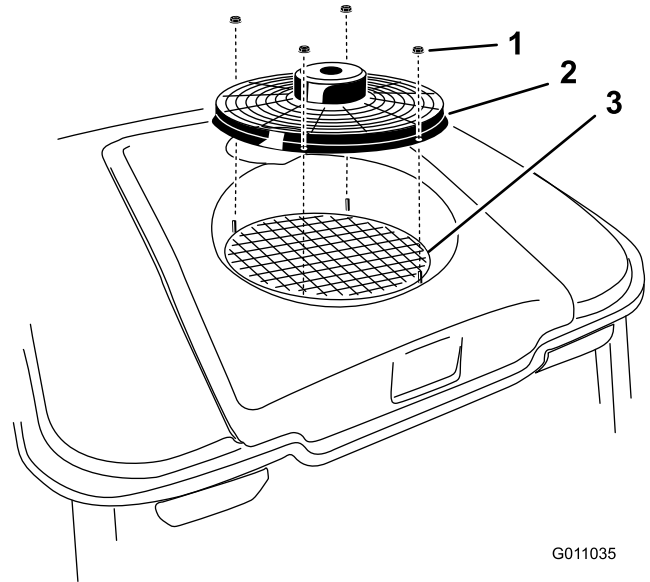

Figure 100
2. Remove the 4 nuts securing the fan to the cabin roof and remove the fan (Figure 100).
3. Clean the air conditioning coil thoroughly with compressed air (Figure 100).